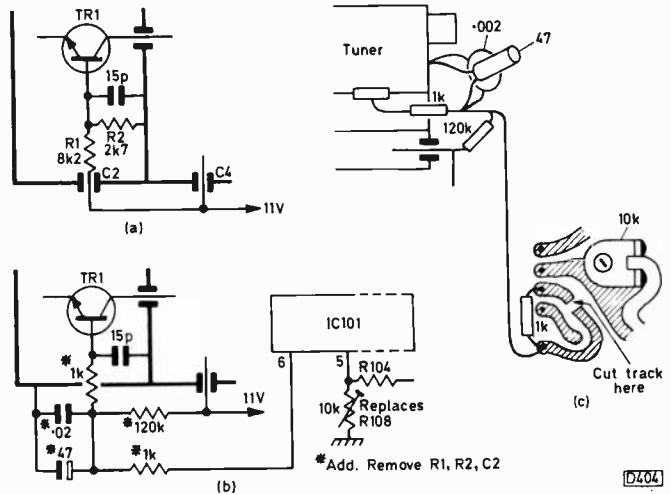

Fig. 4: Tuner a.g.c. modification. (a) original circuit, (b) modified circuit, (c) physical details.
Fig. 4 shows the relevant parts of the tuner and main PCB print. Proceed as follows:
- (1) Open the top of the small i.f. preamplifier fitted to the tuner. If a 150Ω resistor is fitted in series with the output from the tuner remove it and terminate directly at C001/L001. Reset L002 as previously described.
- (2) Remove the tuner from the chassis. Open the cover and carefully remove R1, R2 and C2.
- (3) Fit a small-bodied 1kΩ resistor as shown in Fig. 4, allowing the body to come through the side of the tuner (without shorting).
- (4) Add an 0.02μF capacitor, a 47μF (10V) electrolytic and a 120kΩ resistor external to the tuner as shown.
- (5) Cut the track on the main PCB and add a 1kΩ resistor and 10kΩ preset as shown (the preset has to be reversed on the T730/2 – the diagram shows the T739).
- (6) Connect an unscreened flylead as shown.
- (7) Set the preset for best a.g.c. action, using strong and weak signals and noting the background grain.